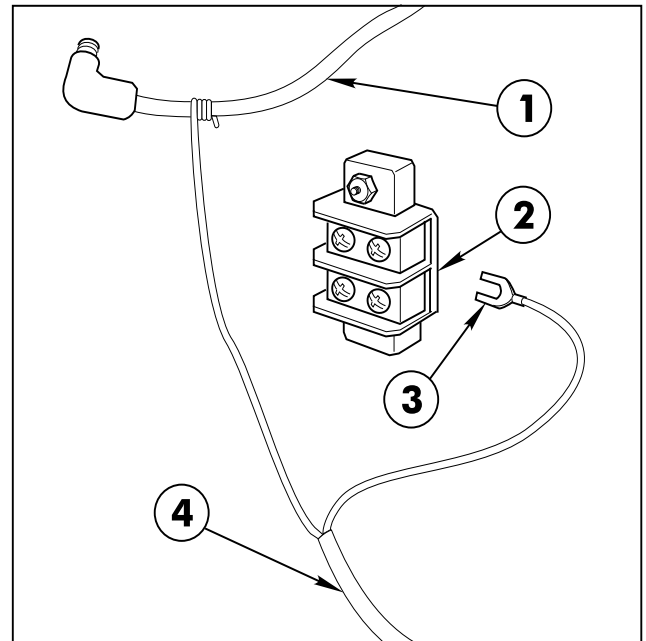

FIG. 2
6. Slip red wire over an insulated section of the Spark Plug Wire and wrap 4 turns. See FIG. 2.
7. Ground the spade terminal on the white wire to the Ground Terminal Block mounted inside the Seat Box. After the connections are made, coil up any excess wire and tie strap to a convenient area. See FIG. 2.